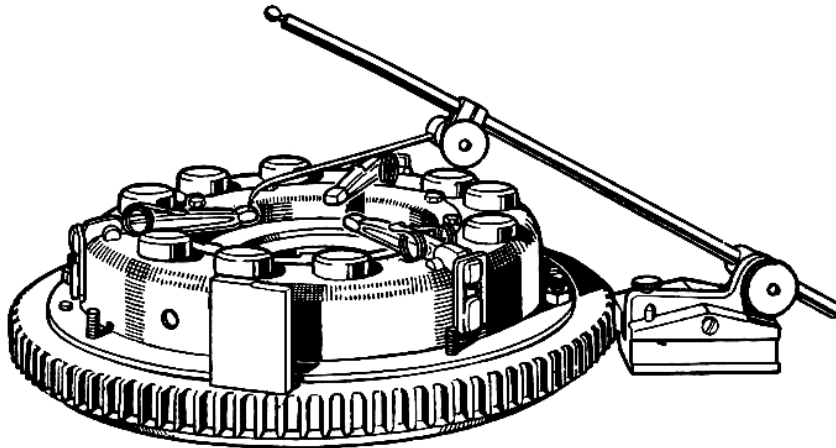

Fig. B-3—Setting the operating levers—Stage 3
4. Check the heights of the three operating levers (Fig. B-3); those that do not lie between 1.729 in. (43,90 mm) and 1.739 in. (44,15 mm) must be brought into line as described below. The lever return spring must be in position each time a check is made; care should also be taken to ensure that the lever fulcrum pins are well seated in the cover plate.